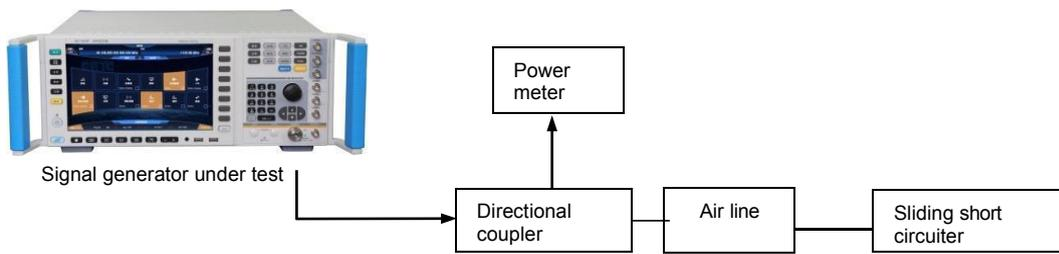

Fig.7.11 Source Standing Wave Test
**Step 2. Connect the device as shown in Fig.7.11.** The HP778D directional coupler is used and it is powered on and reset and warmed up for at least 30 minutes.